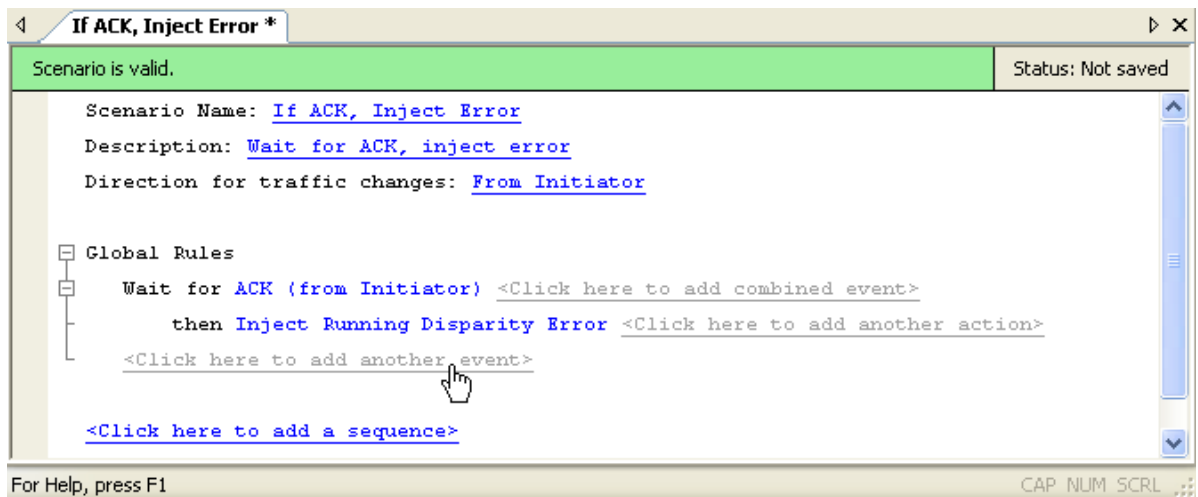

Figure 4.43: Example 6: Entering the Second Event
- Click the prompt to **add another event** (keep in mind this is not a combined event) (see Figure 4.43 on page 329).